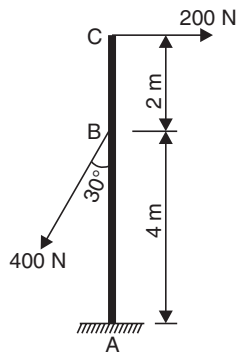

Fig. 3.54
**Example 3.23.** Find the sum of moments of the forces shown in Fig. 3.54 about point A.
**Sol.** Refer to Figs. 3.54 and 3.55.